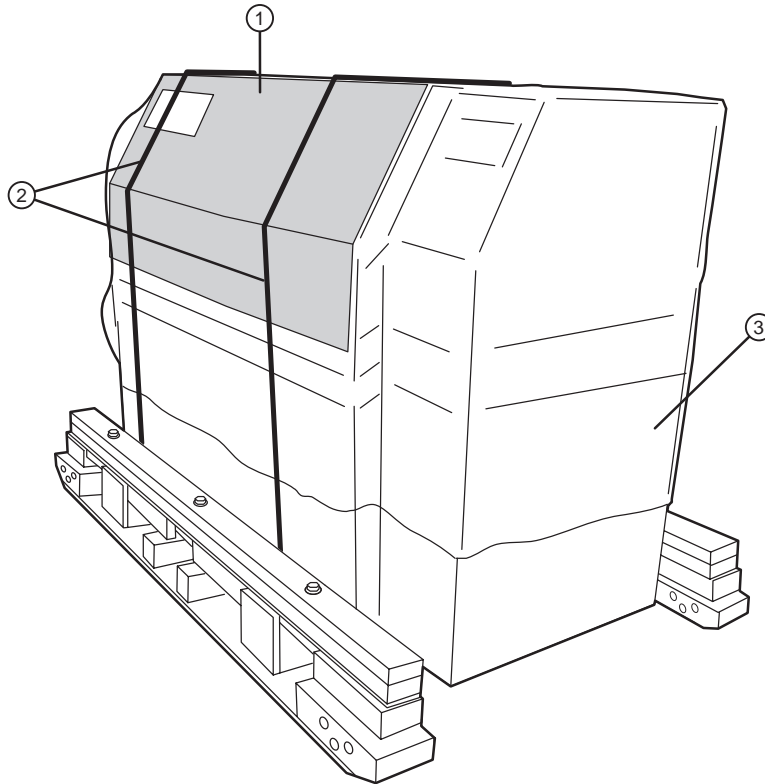

Figure 1-6 Removing packing materials from the imagesetter.
15. Cut the two (2) packing straps around the unit to remove the cardboard and plastic covers. Refer to Figure 1-6.